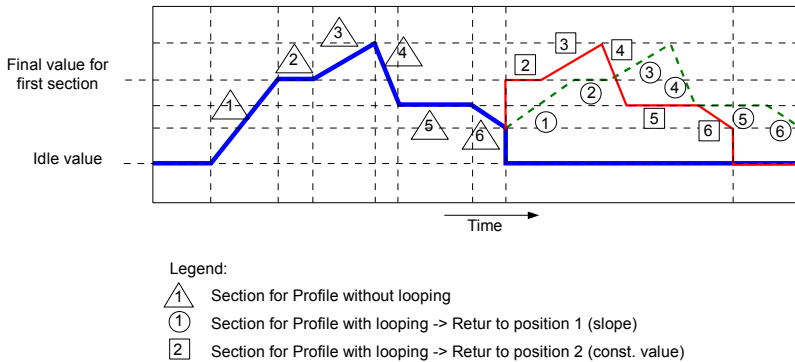

Fig. 7.101. Sample of Profile/timer with description of parameters
- if the section from which begins the next repeat Profile/timer is a **ramp**, then in the whole duration of this section is linear generating the output signal from the **final value** of the previous section to **final value** this section. This is shown in **Fig. 7.101** (dashed line-run profile)
- if the section from which the next repeat of the Profile/timer begins is a constant value, then Profile signal quickly transient (0.1 seconds) from the **final value** of the previous section to a **constant value** in this section. This is shown in **Fig. 7.101** (profile guided fine line).